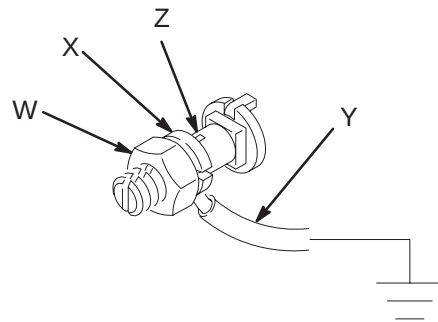

Fig. 1
1. *Pump:* Use a ground wire and clamp as shown in Fig. 1. Loosen the grounding lug locknut (W) and washer (X). Insert one end of a 12 ga (1.5 mm²) minimum ground wire (Y) into the slot in lug (Z) and tighten the locknut securely. Connect the other end of the wire to a true earth ground. Order part number 237569 Grounding Clamp and Wire.